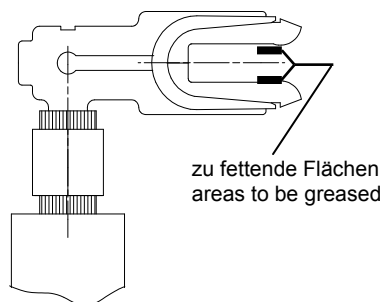

Abb. 89 / Fig. 89
- For contact areas to be greased, see figures 89 and 90